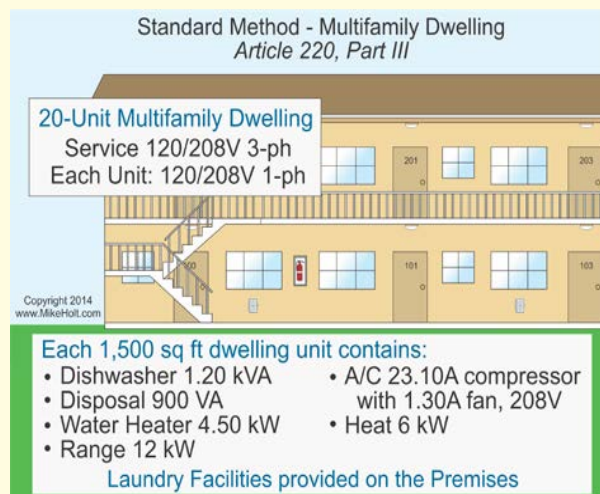

Figure 10-26
Question: What size service and service conductors are required for a twenty-unit multifamily building having the following loads in each 1,500 sq ft unit? Laundry facilities are provided on the premises [210.52(F) Ex 1]. Figure 10-26